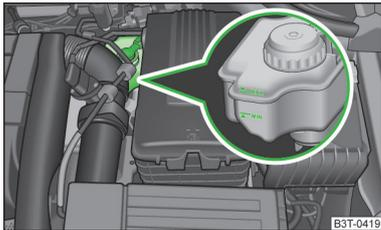

Fig. 168
-  Do not continue your journey if the fluid level has fallen below the MIN marking » Fig. 168 on page 193 - there is a risk of an accident. Seek help from a specialist garage.
The brake fluid reservoir is located in the engine compartment » Fig. 168.
- Check the level of brake fluid in the reservoir » Fig. 168.